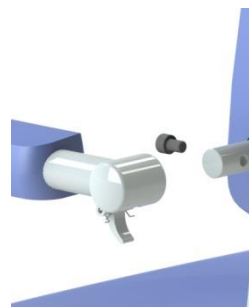

Figure 18 Screws
- Fastly secure screws. (See figure 18)